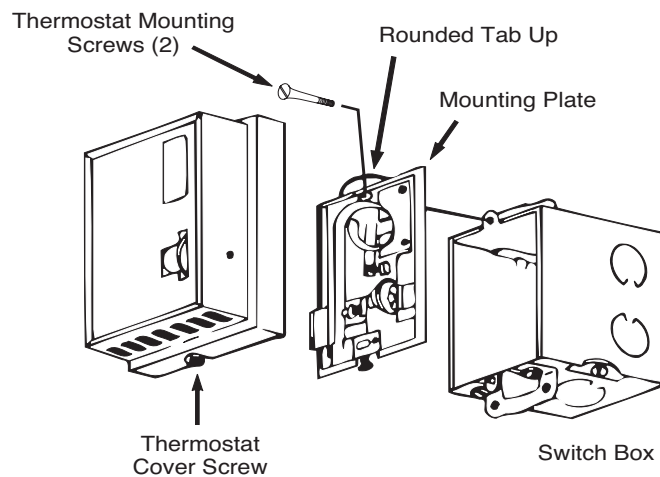

Figure-5 Thermostat Mounting.
3. Remove thermostat cover and fasten thermostat to box or wall (see Figure-5).
4. Attach thermostat cover (see Figure-5).
2. Remove cover (see Figure-5).
6. Replace the thermostat cover (see Figure-5).